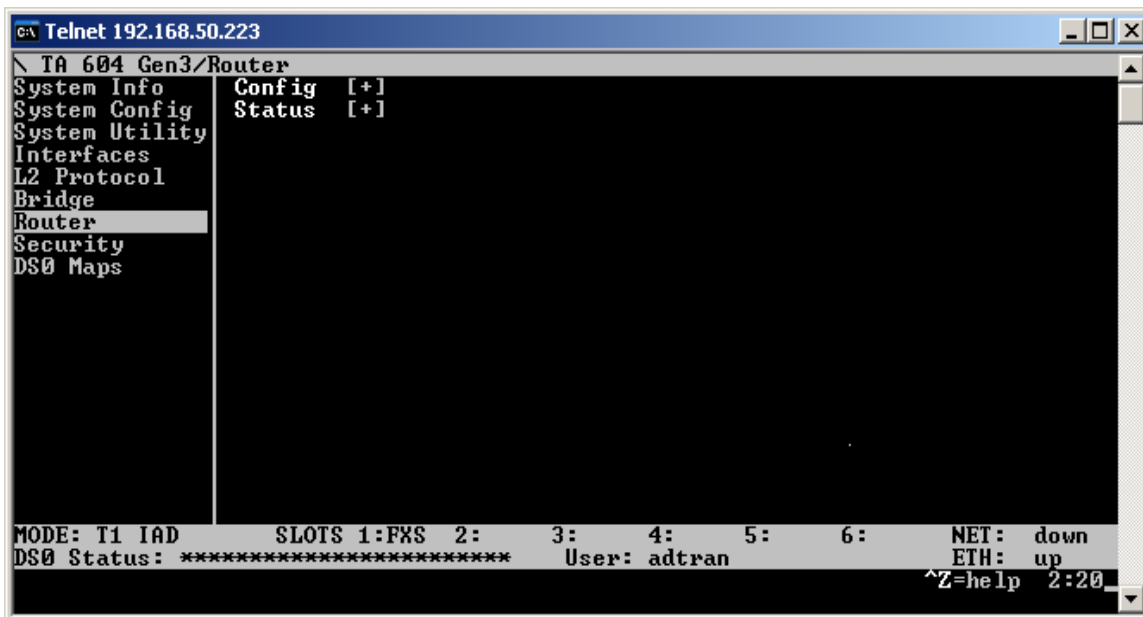

Figure 3 – Router menu
1. From main menu, select “Router” on the left pane as shown in Figure 3.